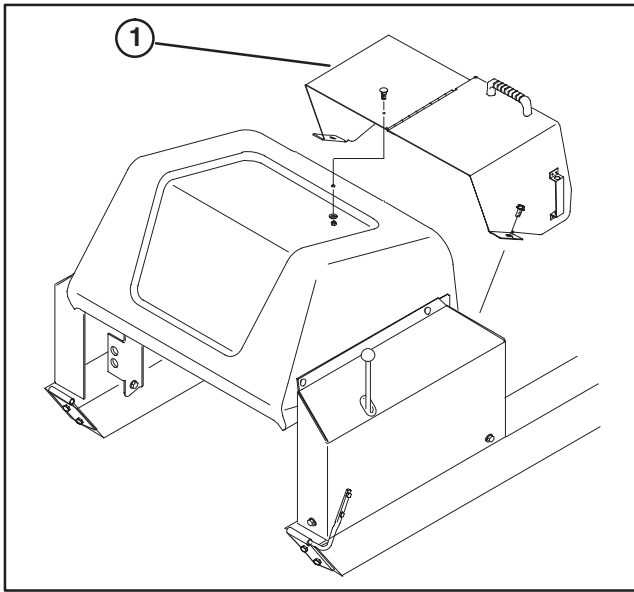

Figure 11
3. Position hinged cover onto machine so mounting tab holes align with holes in left and right hood supports and rests on top of coring head cover (Fig. 11).
4. Loosely secure hinged cover to left and right hood supports with (2) 3/8–16 x 3/4" lg. thread forming flange head capscrews.
5. Using hinged cover as a template, locate, mark and drill a 11/32" (8.7 mm) dia. hole in coring head cover (Fig. 11).
6. Secure hinged cover to coring head cover with a 5/16–18 x 3/4" carriage bolt, flatwasher and locknut (Fig. 11).